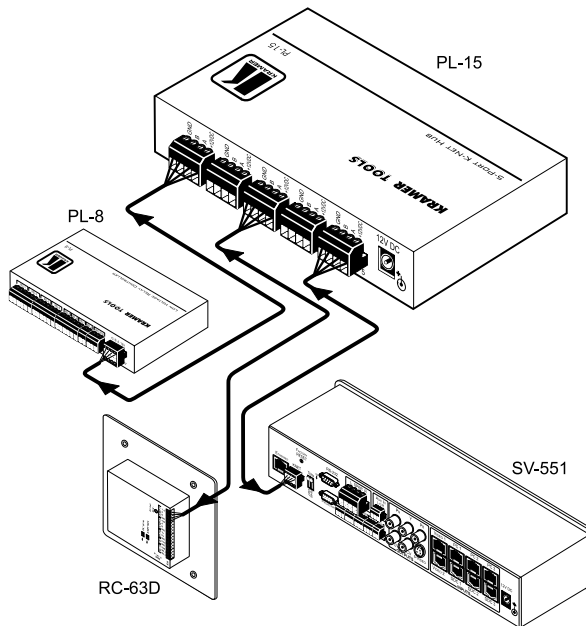

Figure 2: Connecting the PL-15 5 Port K-Net Hub
1. Connect the terminal block connector from the cable of each external device into any unused port (see *Figure 2*).